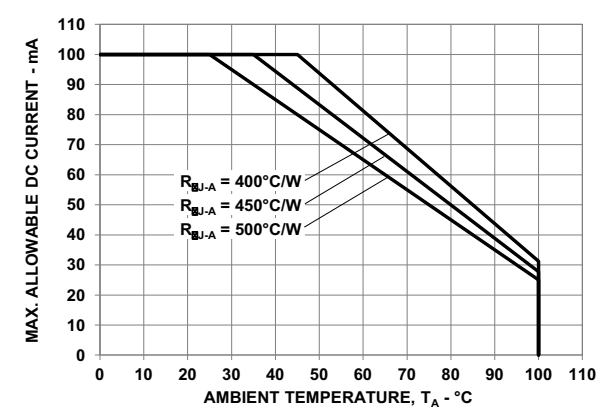

Figure 7: Maximum Forward Current vs. Solder Point Temperature. Derated based on $T_{JMAX} = 125^{\circ}C$, $R_{\theta J-S} = 140^{\circ}C/W$
a. Derate linearly as shown in Figure 6 and Figure 7.